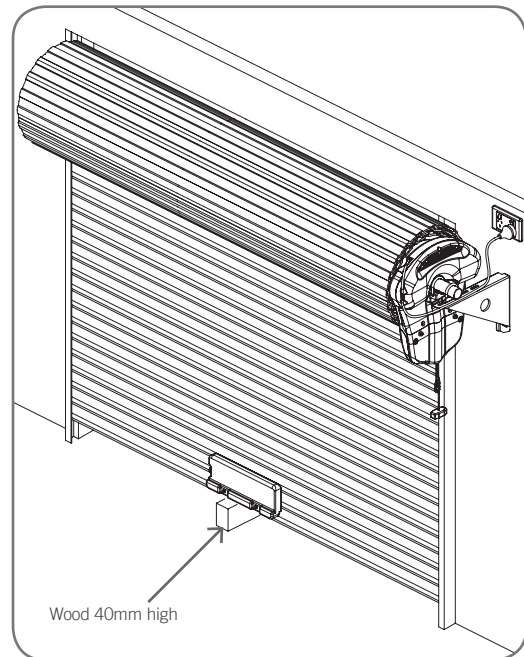

Fig.20
- Place a 40mm obstacle flat on the floor under the middle of the garage door (**Fig. 20**).